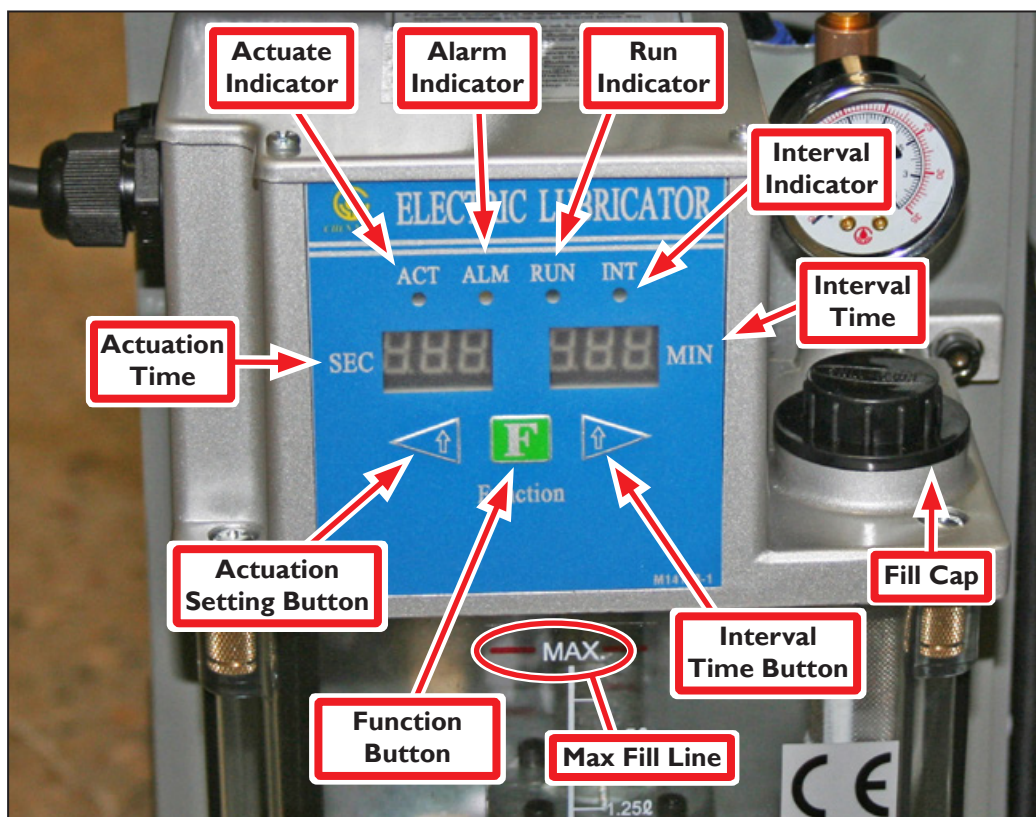

Figure 13
1. Remove Fill Cap and fill reservoir with way oil up to the Max Fill Line (see **Figure 13**). Use only recommended way oils detailed in the table below. For more information on way oils, refer to machine operator manual.
3. Push Function Button (manual override button) to pull oil through tube (see **Figure 13**); check for leaks.
4. After first connecting oiler, or if oiler has run out of oil, purge air from lines. Push and hold the Function Button (see **Figure 13**) in four second increments; repeat four times.
5. Set the interval time to define the time between applications. Push and release Interval Time Button (see **Figure 13**) to activate the interval time setting (indicated by a flashing Interval Indicator LED). In this mode, Interval Time Button increases interval setting and Function Button decreases interval setting. The setting is displayed in the Interval Time window (see **Figure 13**). This should be set to 240 minutes (four hours).
6. Set the actuation time to define the time of oil application, or length of oil application pulse. Push and release Actuation Setting Button (see **Figure 13**) to activate actuation time setting (indicated by a flashing Actuation Indicator LED). In this mode, Actuation Setting Button increases actuation setting and Function Button decreases actuation setting. The setting is displayed in the Actuation Time window (see **Figure 13**). This should be set to 5 seconds.
- The first sounds when the level in the reservoir drops below the required minimum, indicated by an illuminated Alarm Indicator LED and the Actuation Time window display flashing (see **Figure 13**)
- The second sounds when low pressure is detected, indicated by an audible beep, an illuminated Alarm Indicator LED, and both the Actuation Time window and Interval Time window displays flashing (see **Figure 13**).
The second alarm is critical, as machine is no longer getting oil. If a second low pressure alarm goes off, refill reservoir with oil and purge air out of the system (refer to *Setup* section earlier in this document for more information). To clear an alarm, push Function Button (see **Figure 13**).
Turn spindle on and press Function Button (see **Figure 13**) to manually oil machine as needed.